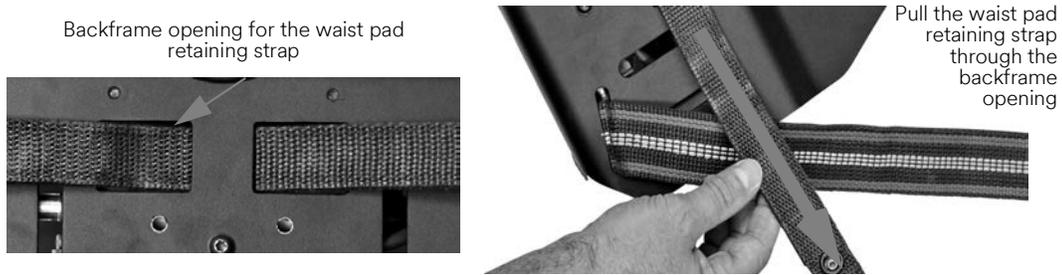

Figure 2-13 Pulling the waist pad retaining strap through the backframe opening
- v Pull the waist pad retaining strap through the opening in the backframe and set aside. See Figure 2-13.
- iv Continue sliding the unfastened end of the waist pad retaining strap through the backframe openings and the second sewn loop of the waist pad. See Figure 2-13. The waist pad retaining strap is now removed from the backframe but still attached to the waist pad at one end.